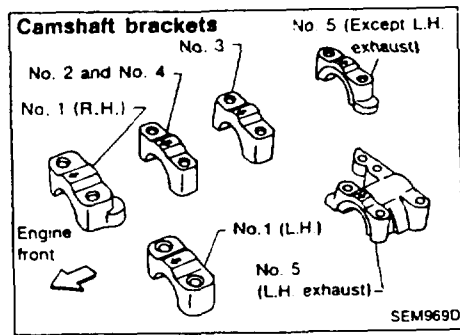

Figure 5
6. To ensure that all cam caps are reinstalled correctly, mark the cam caps for both intake and exhaust cams. For example, mark "RE-1" through "RE-5" on the RH exhaust cam caps; "LI-1" through "LI-5" for the LH Intake cam caps (Figure 5).